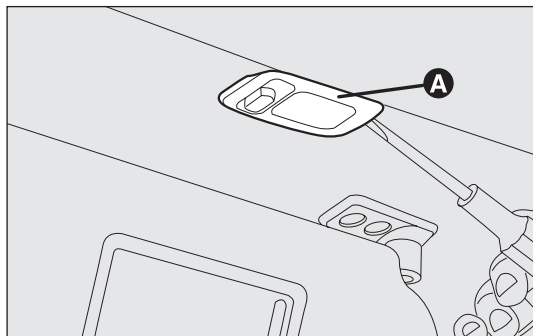

fig. 179
COURTESY LIGHT fig. 179
- ☐ remove the light A-fig. 179 by levering on the points shown by the arrow.